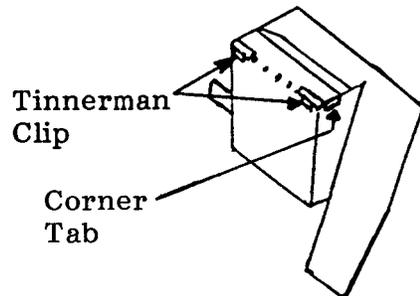

Figure 3
3. Bend the top flange (A) down so the two corner tabs are on the outside of the hopper. See figure 3.
1. Secure the anti-theft cover in place with two Tinnerman clips. See figure 3.